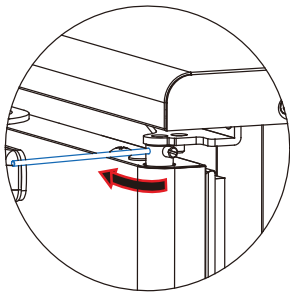

Fig 9-28
2. To remove the tension pin, slightly turn the stick in the direction of the arrow. Maintain the position of the steel stick by resisting the spring tension. (Fig 9-28)